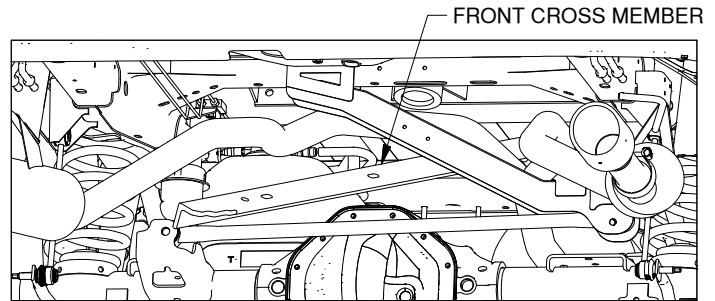
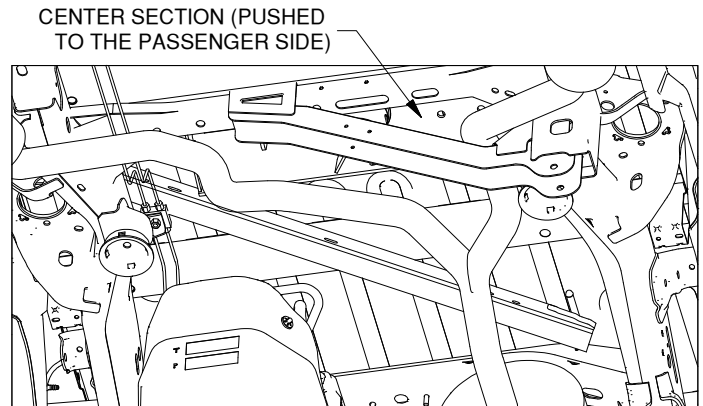

Figure C3: View looking under truck bed toward the cab.
Figure C4: View looking up under truck bed. (Axle not shown)
- 3. Position the front cross member (dual and single exhaust).** The front cross member is the 2" x 2-1/2" angle with five holes in one flange. While holding the front cross member in an inverted "V" with the flange with holes in it towards the passenger side of the truck, move the cross member over the driver side of the rear axle, as shown in Figure C3. Lift the trailing end toward the rear of the truck over the driver side frame rail, see Figure C4. Slide the cross member toward the driver side until the leading end of the cross member can be placed on top of the passenger side frame rail. It may be necessary to adjust the wiring in the driver side wheel well to give the cross member clearance on the frame. When the cross member is spanning both frame rails, push the front cross member forward to make room to install the center.